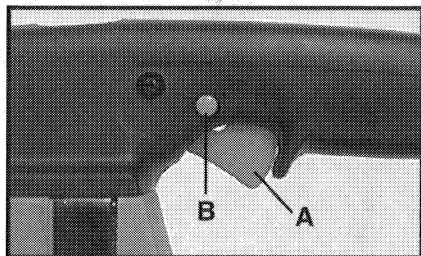

Fig. 5
1. Squeeze trigger switch (A), Fig. 5, to start motor. Release trigger to stop motor.
2. Lock Button – A lock button (B), Fig. 5, is provided to keep the saw running without holding the switch trigger “ON”. To lock the switch trigger “ON”, squeeze the trigger as far as it will go and push in the lock button and release trigger.